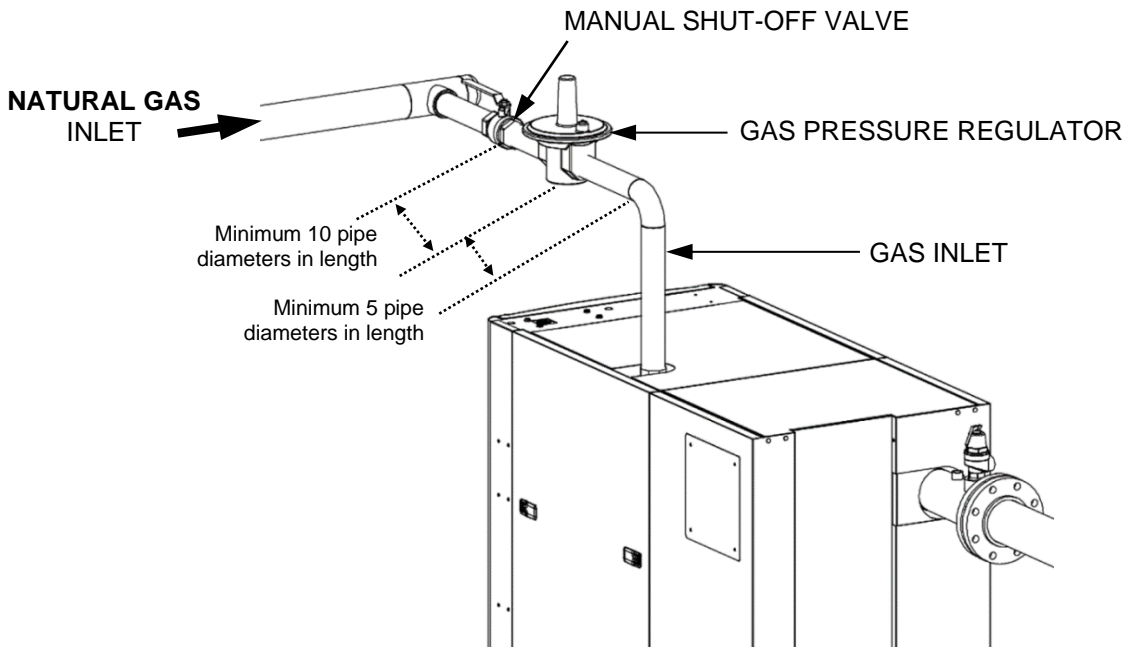

Figure 2-1: CFR1500 & CFR3000 Gas Regulator and Manual Shut-Off Valve
A manual shutoff valve must be installed in each boiler, as shown in Figure 2-1. This valve is supplied with the boiler.
- When installed horizontally, the required distance between the gas pressure regulator and the nearest pipe fitting, elbow or valve is **10 pipe diameters**, as shown in Figure 2-1.